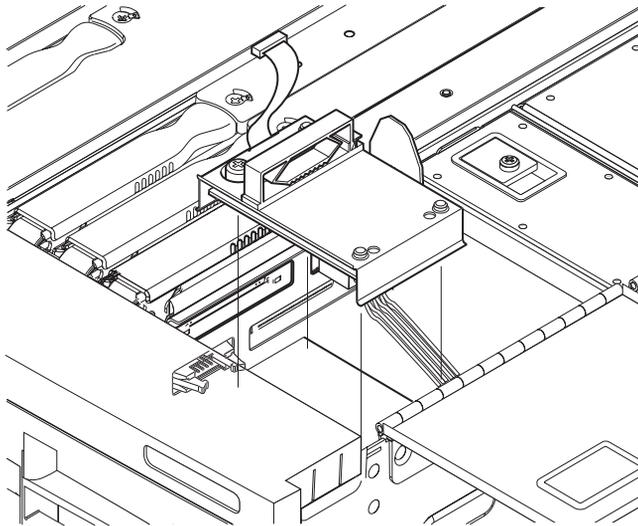

FIGURE 5-24 Removing the SCC Reader
11. Lift the reader off the locating pins (FIGURE 5-24). Place it on an ESD mat.
8. Place the reader over the locating pins. Press firmly to seat it (FIGURE 5-24).